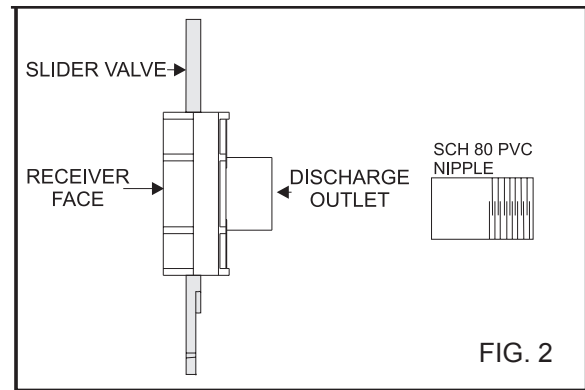

FIG. 2
4. Install slide face discharge receiver to tank's discharge hub. The slide face has a 1 ¼-inch solvent weld socket. A 1 ¼-inch PVC nipple is supplied if a threaded connection is necessary. Glue nipple to slide face with Schedule 80 primer and glue. Take care not to get glue on slide face surfaces. (Fig. 2)